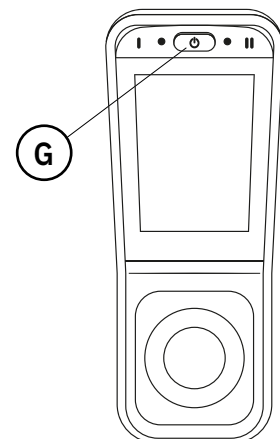

Figure 5.12. Emergency stop on LiNX REM400.
When driving or adjusting seat functions, you can quickly cancel movement by releasing the joystick or by pressing the main switch (G), see Figure 5.12. The control unit switches off and the electrical function stops.